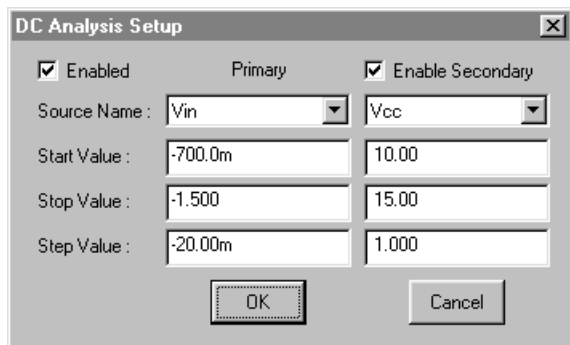
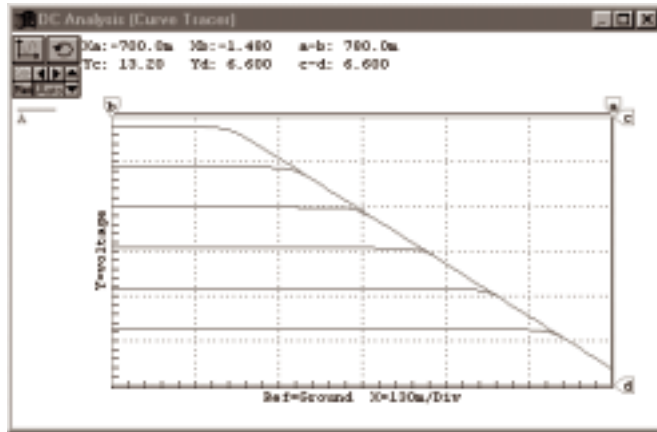

Figure 6.8. The DC Analysis Setup dialog box.
Figure 6.9. A DC Analysis waveform.
- 2 Click the **DC...** button to display the dialog box pictured in Figure 6.8.
The waveform in Figure 6.9 was generated by simulating the ANALOG.CKT circuit using the values shown in Figure 6.8. Notice that the x axis represents the voltage of the primary source, and the y axis is the voltage at the output of the circuit. The waveforms correspond with each step of the secondary source. See *Using the Analysis Windows* earlier in this chapter for more information about manipulating the waveforms.